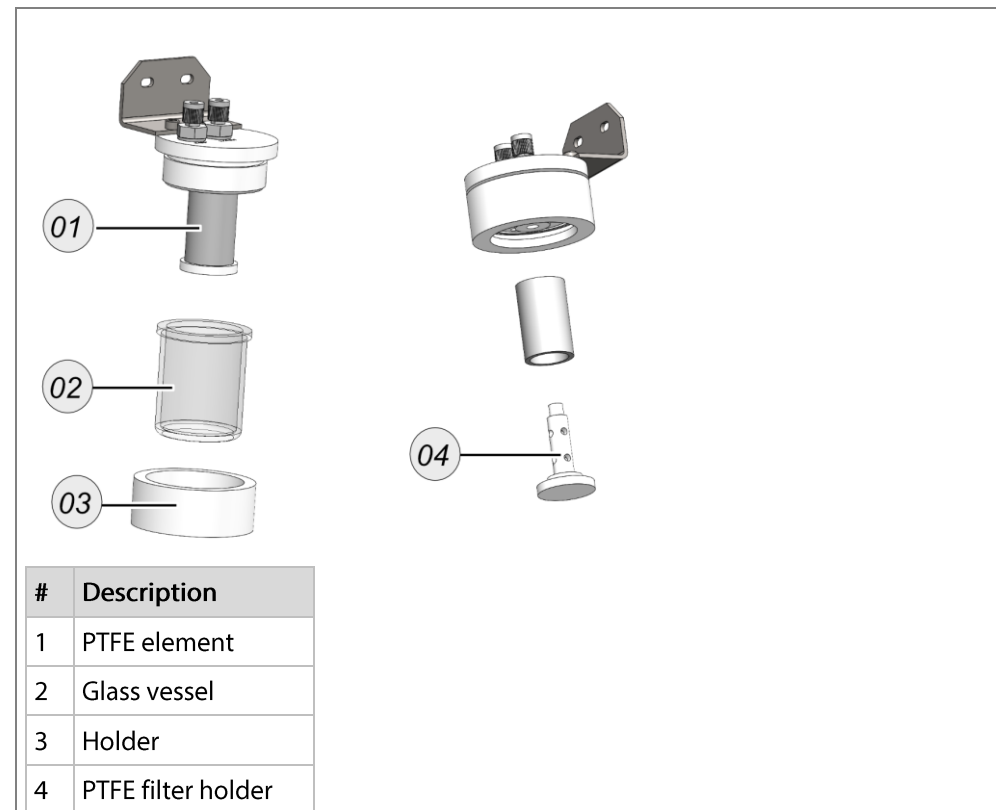

Fig. 1
- ☐ Unscrew the retaining ring of the dust filter by hand (Fig1. (3)).
- ☐ Remove the glass vessel (Fig.1 (2)).
- ☐ Unscrew the PTFE filter holder (Fig.1 (4)).
- ☐ Replace the used PTFE element with a new one (Fig.1 (1)).